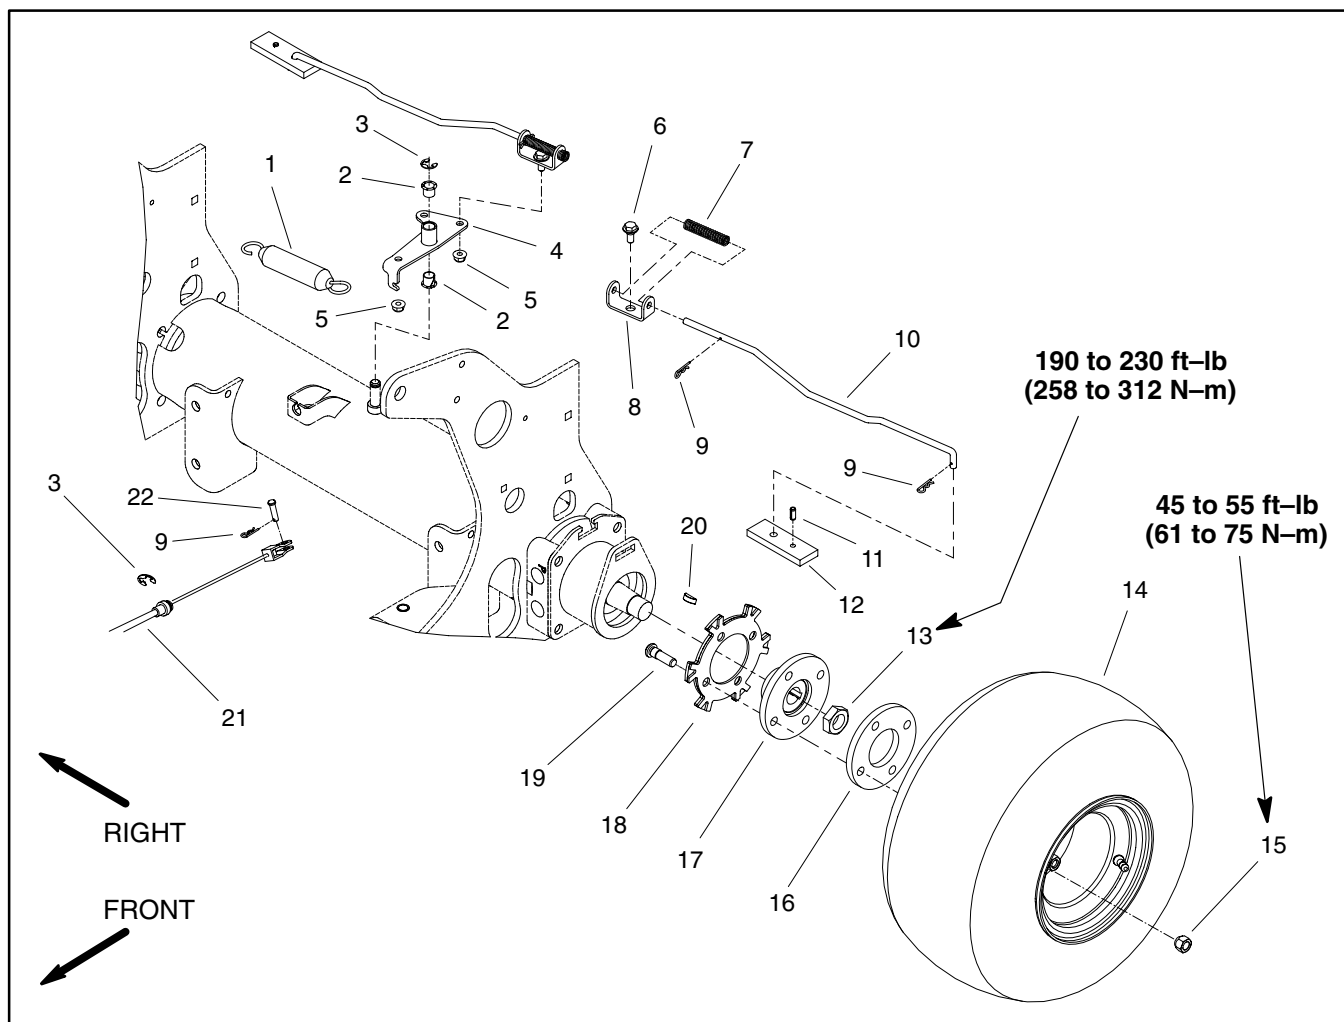

Figure 4
## Removal (Fig. 4)
5. Remove parking brake components as needed using Figure 4 as a guide.
## Installation (Fig. 4)
1. Install removed parking brake components using Figure 4 as a guide.